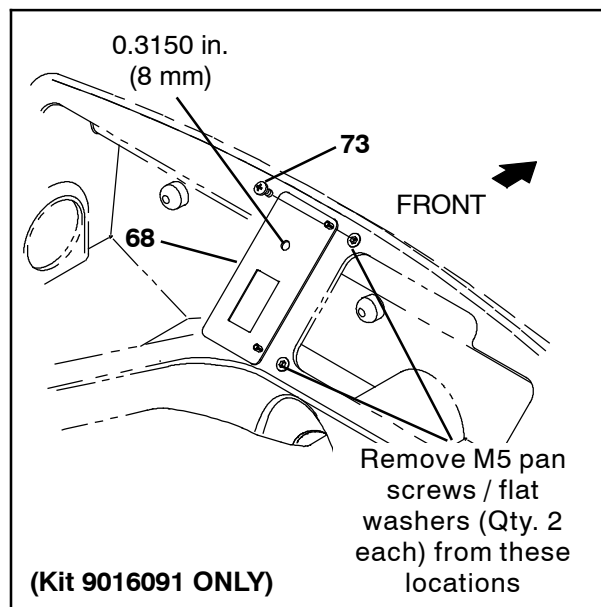

FIG. 17
103. **(Kit 9016091 ONLY):** Remove the two M5 pan screws and flat washers securing the switch panel assembly to the instrument box and use two M5 pan screws (73) to install the control console template (68) onto the instrument box. Set both removed M5 pan screws and flat washers aside. (Fig. 17)
104. **(Kit 9016091 ONLY):** Use the control console template (68) as a template to mark the locations for the LED light (54) and the rocker switch (55) on the instrument box. (Fig. 17)
105. **(Kit 9016091 ONLY):** Remove the control console template (68) from the instrument box and reinstall the M5 pan screws and flat washers to completely secure the switch panel assembly to the instrument box. (Fig. 17)
106. **(Kit 9016091 ONLY):** Carefully drill a 0.3150 in. (8 mm) hole into the hole in the instrument box for the LED light (54). **Do Not** cut or damage cables / components located behind the instrument box when drilling into the instrument box. (Fig. 17)
107. **(Kit 9016091 ONLY):** Carefully cut a hole into the instrument box for the rocker switch (55). **Do Not** cut or damage cables / components located behind the instrument box when cutting into the instrument box. (Fig. 17)